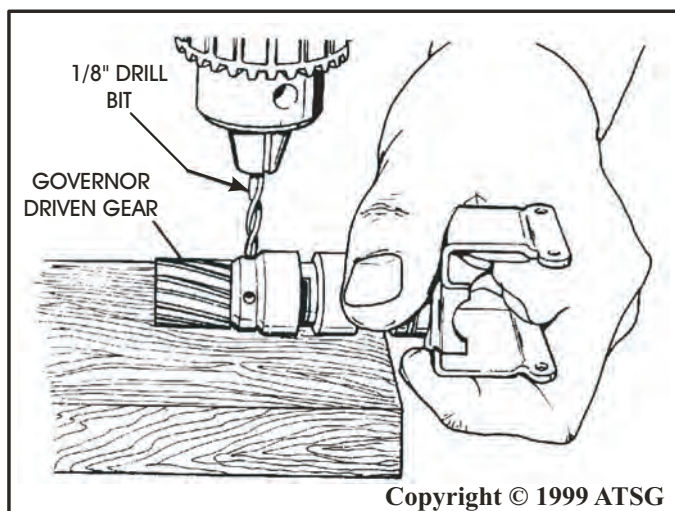

Figure 93
6. Drill new 1/8 in. (.125") hole in the sleeve and carrier assembly and governor driven gear that is 180 degrees from the original hole as shown in Figure 93.